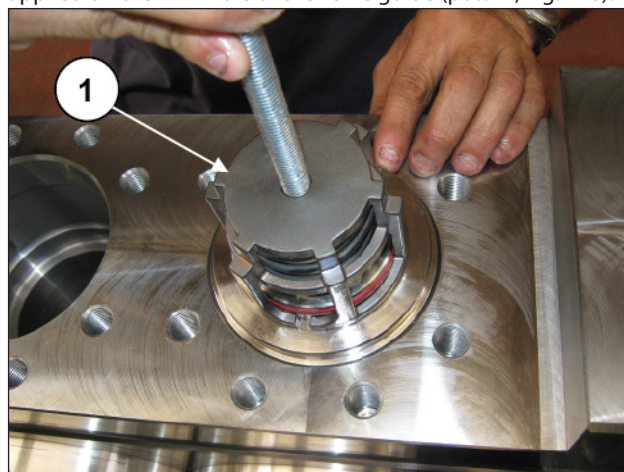

Fig. 170
Extract the outlet valve unit with an extractor hammer to be applied on the M12 hole of the valve guide (pos. ①, Fig. 170).